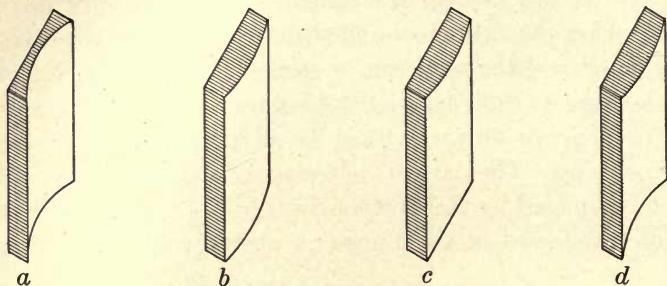

FIGURE 80.—PECULIARLY SHAPED MIRRORS.
4. *Peculiarly Shaped Mirrors.* There are many peculiarly shaped mirrors, such as are found in "hilarity halls," etc. Figure 80 shows a few of these. Due to the peculiar shapes, the images are distorted and afford amusement for the patrons.